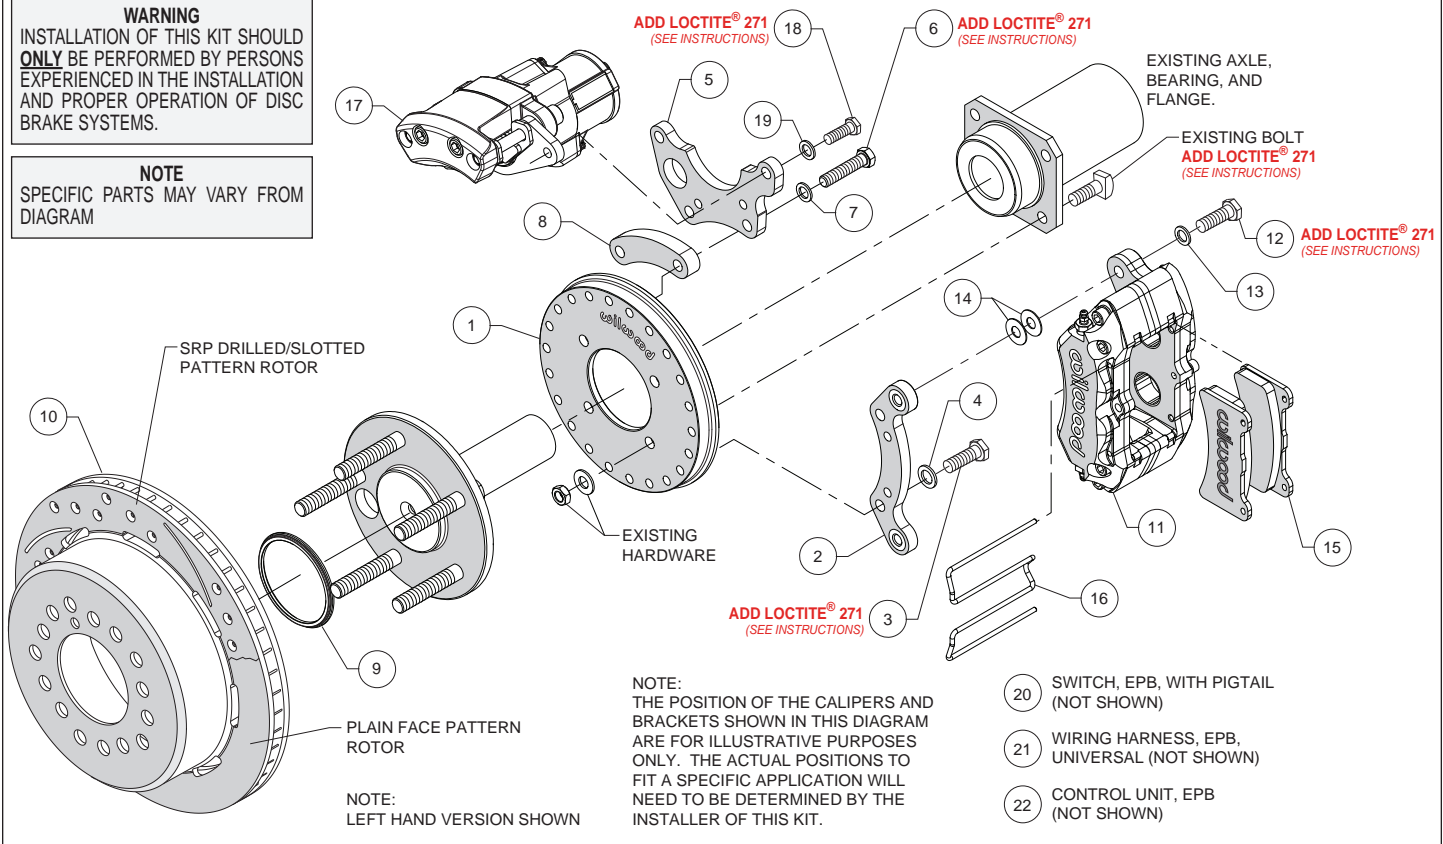
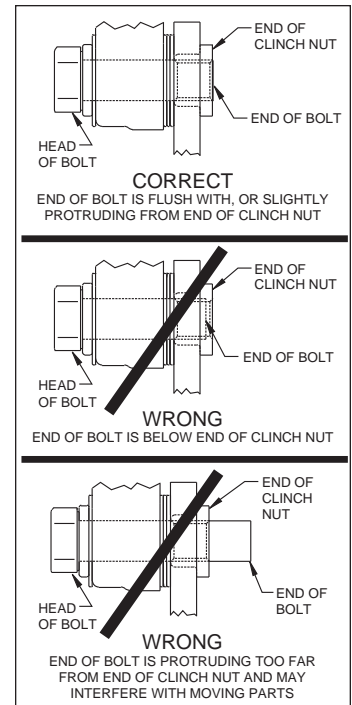

Figure 1. Typical Installation Configuration
Figure 4. Clinch Nut Engagement Diagram
(numbers in parenthesis refer to the parts list, and Figure 1 on the preceding pages): **CAUTION:** All mounting bolts must fully engage clinch nuts. Be sure to check that all bolts are either flush or protruding through flanged side of clinch nut after shimming, Figure 4.
- Orient the backing plate (1) as shown in Figure 1 and Photo 1, and mount it to the axle housing flange using the Original Equipment Manufacturer (OEM) bolts, washers and nuts, Figure 1. Ensure the backing plate fits flush against the axle housing flange. Apply red *Loctite*® 271 to the OEM bolt threads and torque to OEM specifications.
•Start by determining the best location for the service caliper (11). This caliper is usually mounted in the 3:00 or 9:00 o'clock position, but may be rotated up or down approximately 45 degrees and still allow for proper bleeding, Photo 2. Orient the service caliper bracket (2) as shown in Figure 1 and Photo 3, and install to the backing plate (1) in the desired location using bolts (3) and washers (4). Temporarily tighten bolts. Next, mount the service caliper to the bracket using bolts (12) and washers (13). Temporarily tighten bolts. Check that the caliper (including inlet fitting and hose) has sufficient clearance to all surrounding components through the full suspension travel. Relocate the caliper/bracket on the backing plate as needed to ensure proper clearance is achieved.
•Determine the best location for the EPB caliper (17). **NOTE:** The EPB caliper motor extends farther inboard than the service caliper and therefore needs additional consideration when determining a mounting location with sufficient clearance. In the example application shown in Photo 4, the EPB caliper has sufficient inboard clearance to the leaf spring. However, if the EPB caliper were mounted closer to the 12:00 o'clock position, the inner body of the vehicle would hit the caliper during full compression of the suspension.
•Orient the EPB caliper bracket (5) as shown in Figure 1 and Photo 5, and install to the backing plate (1) in the desired location using bolts (6), washers (7), and spacer (8). Temporarily tighten bolts. **NOTE:** The EPB bracket is reversible. In one direction the bracket will position the EPB caliper closer to the service caliper, and vice versa if reversing the bracket. Next, mount the EPB caliper (17) to the bracket using bolts (18) and washers (19). Temporarily tighten bolts. **NOTE:** EPB calipers are Left and Right handed, however they can be used on either side of the vehicle to best suit your specific application. Check that the EPB caliper (including wiring harness connector) has sufficient clearance to all surrounding components through the full suspension travel. Relocate the EPB caliper/bracket on the backing plate as needed to ensure proper clearance is achieved.
- Once the caliper positions have been determined, remove both the service (11) and EPB (17) calipers, leaving both brackets in place on the backing plate. For both brackets, remove the bolts one at a time, apply red *Loctite*® 271 to the threads, and torque to 35 ft-lb.
- Slide the rotor registration adapter (9) onto the register on the axle flange with the smaller O.D. facing toward the rotor/hat (10), Photo 6. Align the correct hole pattern in the rotor/hat with the stud pattern on the axle flange and slide into place, Figure 1. **NOTE:** The rotor/hat must fit flush against the axle flange or excessive rotor run out may result. Install three lug nuts (finger tight) to keep the rotor/hat assembly in place while continuing with the installation. **NOTE:** Some OEM and after market axles come with stud sizes larger than 0.50" diameter. Verify stud size and have a qualified machine shop drill the bolt circle of the hat/rotor to the correct stud size, if necessary.
- NOTE:** Please reference the caution statement at the beginning of the assembly instructions. Remount the service caliper (11) onto the caliper mounting bracket (2) using bolts (12) and washers (13), as shown in Figure 1. Initially place two .035" thick shims (14) on each bolt between the caliper and the bracket, Photo 7. Temporarily tighten the mounting bolts and view the rotor (10) through the top opening of the caliper. The rotor should be centered in the caliper, Photo 8. If not, adjust by adding or subtracting shims (14) between the bracket (2) and the caliper (11). Always use the same amount of shims on each of the two mounting bolts. **NOTE:** The end of each bolt must be flush with or slightly protruding from the head of the clinch nut, as shown in Figure 4. If necessary place spare shims (14) between washer (13) and caliper mounting ear to achieve the proper clinch nut engagement. Once the caliper alignment and clinch nut engagement are correct, remove the bolts one at a time, apply red *Loctite*® 271 to bolt threads, and torque to 40 ft-lb.
- Install the disc brake pads (15) into the service caliper (11), with the friction material facing the rotor (10), Photo 9. Secure the pads in place using pad clip retainer (16), Photo 10.
- Mount the EPB caliper (17) onto the caliper mounting bracket (5) using bolts (18) and washers (19), Figure 1. Apply red *Loctite*® 271 to bolt threads, and torque to 30 ft-lb.
- NOTE:** The service caliper (11) in this brake kit utilizes a 1/8-27 NPT pipe thread inlet. OEM rubber brake hoses generally cannot be adapted to Wilwood calipers. The preferred method is to use steel adapter fittings at the caliper, either straight, 45 or 90 degree and enough steel braided line to allow for full suspension travel. **Carefully route hoses to prevent contact with moving suspension, brake or wheel components.** **NOTE:** Wilwood